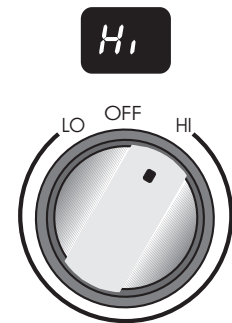

Fig. 3
2. Push in and turn the surface control knob in either direction to the desired setting using the ESEC digital display window to verify (Fig.3). Turn the knob to adjust the setting as needed.